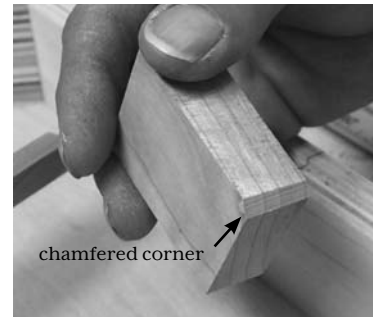

FIG. 5
- \_\_\_8. One more BRIDGE SUPPORT BLOCK is needed for the internal bracing. We like to chamfer the bottom corner of this block just to make sure we can glue it firmly to both the back panel and the rear rail without any interference from dried glue residue along the inside corner of the box. (fig. 5)